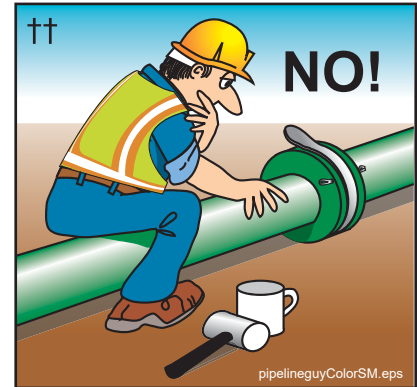

Figure 96
17.22 **⚠ WARNING** Never stand on, sit on, or straddle a pipeline while it's in use, or whenever it is pressurized (Figure 96). Pipeline wears out with each stroke of the pump. If the pipe bursts, you want to be to the side of it, not on top of it.